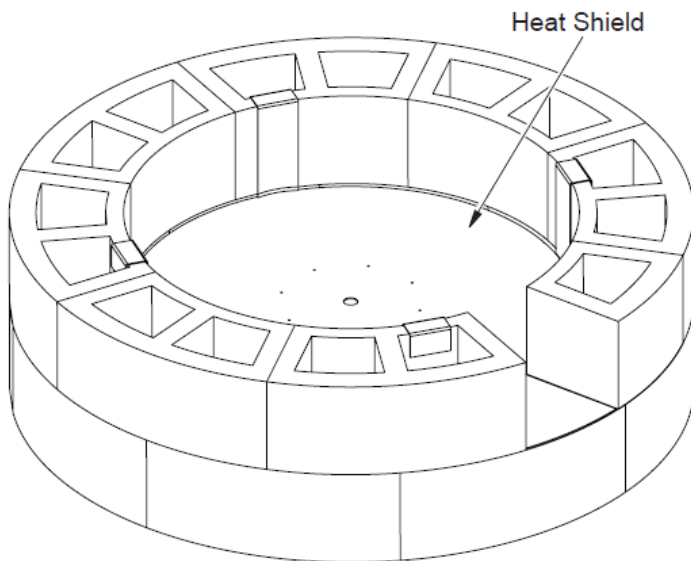

Figure 12 - Installing Heat Shield
7. Place heat shield on the retaining brackets in the center of the fire ring (see Figure 12).